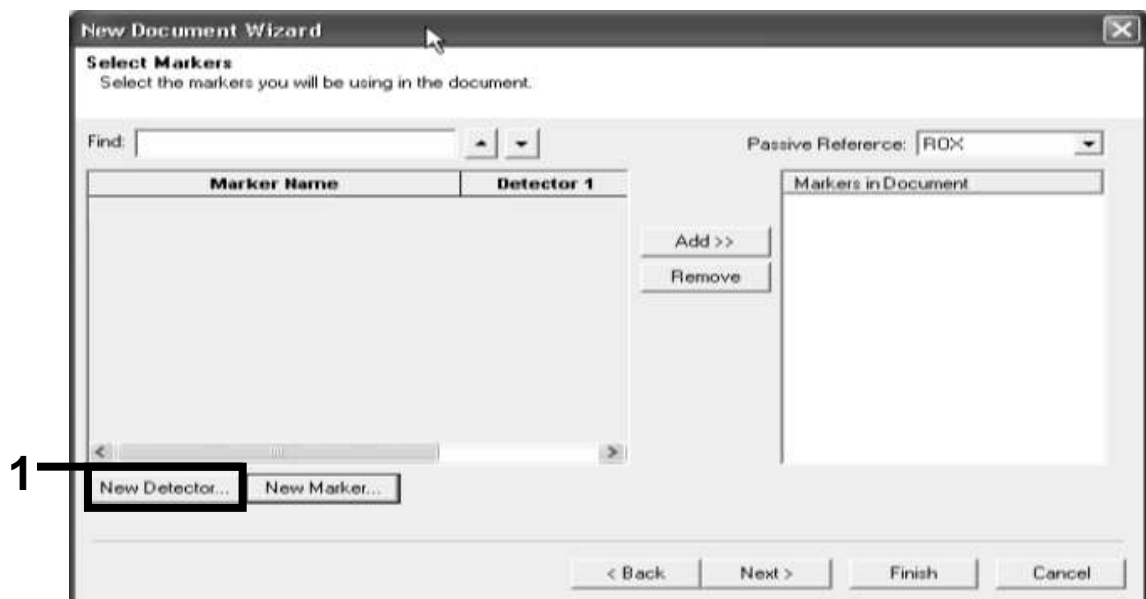

Figure 14. The "Markers in Document" panel does not contain a suitable marker for your application.
15. Create detectors and markers as follows. Click "New Detector" (Figure 14).
18. Click "New Marker" in the "Select Markers" dialog box (see Figure 14).